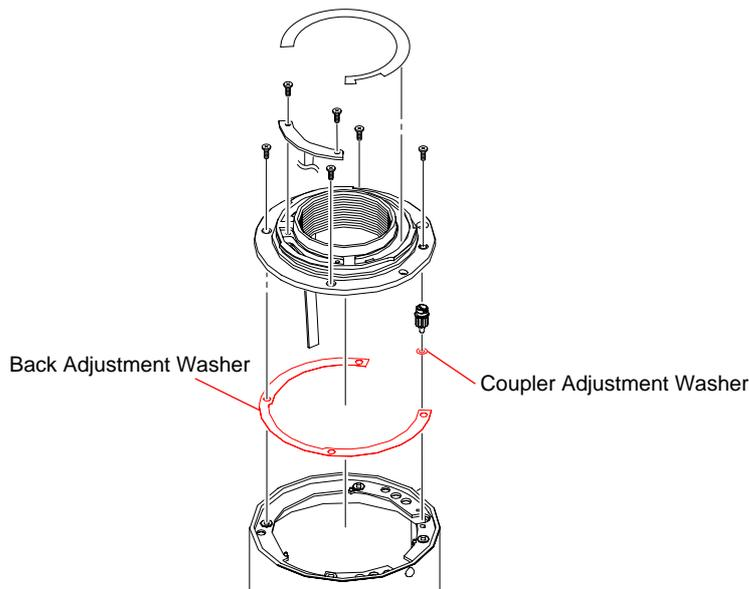

Fig.4-4-7
- 8) Adjust the back adjustment washer thickness according to the result of step 7). (Refer to Table 4-4-2 and Fig.4-4-7.)
- 9) Change the coupler adjustment washer thickness to the back adjustment washer thickness. (Refer to Table 4-4-2 and Fig.4-4-7.)